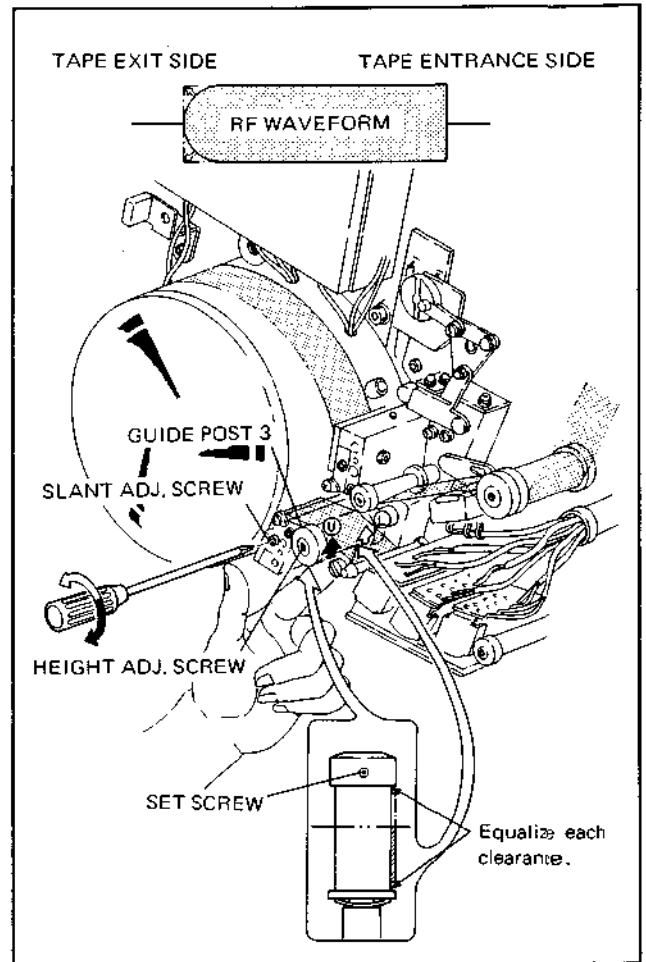

Fig. 3-75. Height Adjustment of Guide Post 3 and Slant Adjustment of Exit slant Guide.
22. Lightly push the $\text{\textcircled{U}}$ or $\text{\textcircled{L}}$ side of the tape shown in Fig. 3-75 and find out the side whose RF waveform on the tape exit side becomes flat.